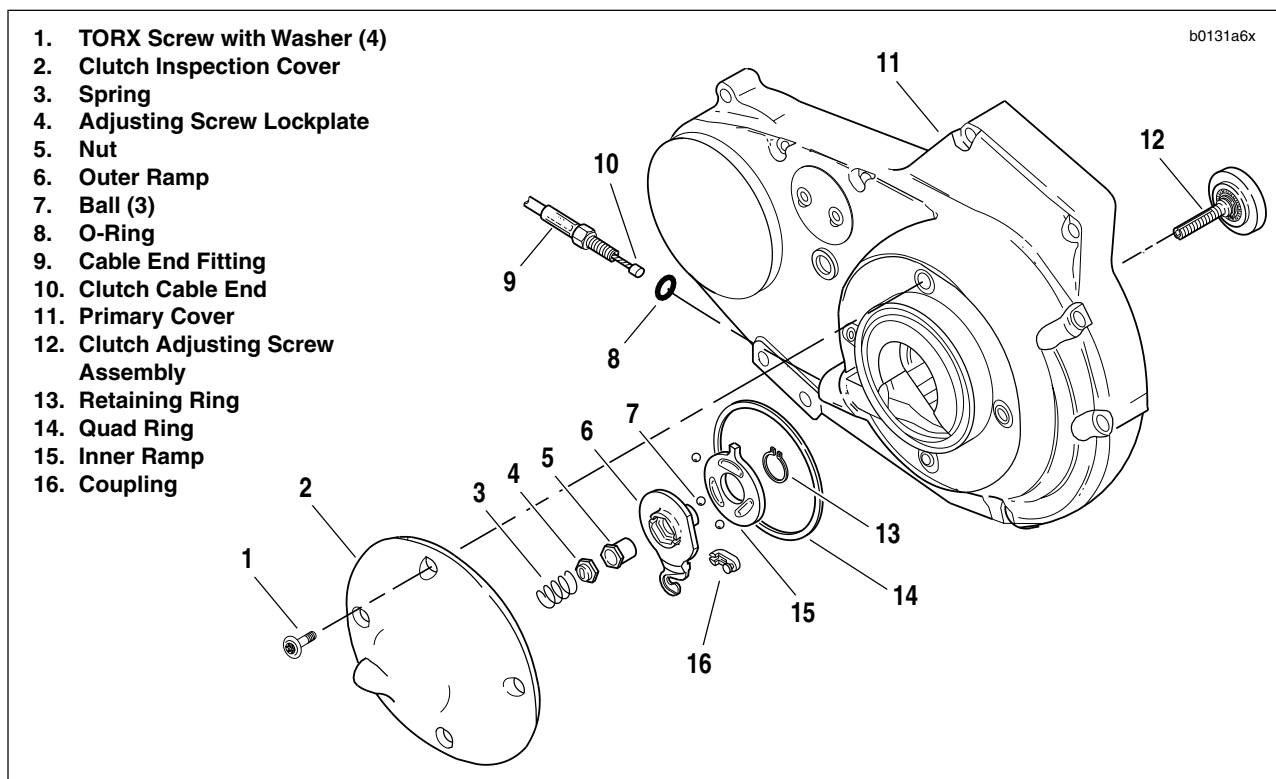
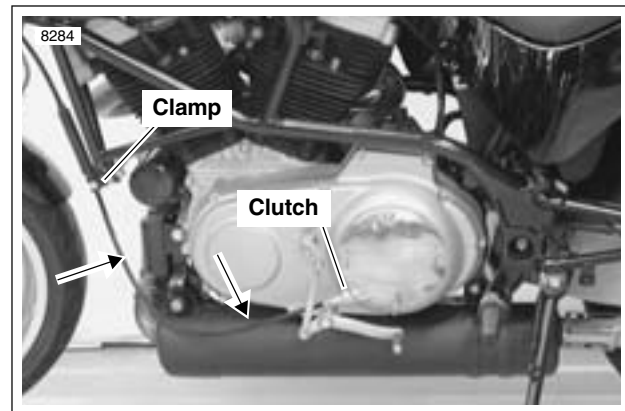

Figure 2-89. Clutch Release Mechanism
Figure 2-91. Clutch Cable Routing, Lower
2. See Figure 2-89. Remove four TORX screws (1) with washers and clutch inspection cover (2). Do not damage or dislodge quad ring (14) in primary cover (11).
3. Slide spring (3) with attached hex lockplate (4) from flats of adjusting screw (12).
4. Turn adjusting screw clockwise to release ramp and coupling mechanism. As the adjusting screw is turned, ramp assembly moves forward. Unscrew nut (5) from end of adjusting screw.
5. Remove hook of ramp (6) from button at the rear of cable end coupling (16). Remove cable end (10) from slot in coupling.
6. Turn cable end fitting (9) counterclockwise to remove clutch cable lower section from primary cover (11). Remove O-ring (8) from cable end fitting.
- See Figure 2-89. Install O-ring (8) over cable end fitting (9) of clutch cable lower section. Turn fitting clockwise to install into primary cover (11). Tighten to 3-9 ft-lbs (4-12 Nm).
- Fit coupling (16) over cable end. Place hook of ramp around coupling button and rotate assembly counter-clockwise until tang on inner ramp (15) fits in slot of primary cover (11).
- Thread nut (5) on adjusting screw (12) until slot of screw is accessible with a screwdriver. Fit nut hex into recess of outer ramp (6) and turn adjusting screw counter-clockwise.
- See Figure 2-91. Route cable along left side of primary chaincase and up to clamp on front isolator tie bar.
- See Figure 2-91. Route cable down left side of bike, through clamp, along primary chaincase to clutch.